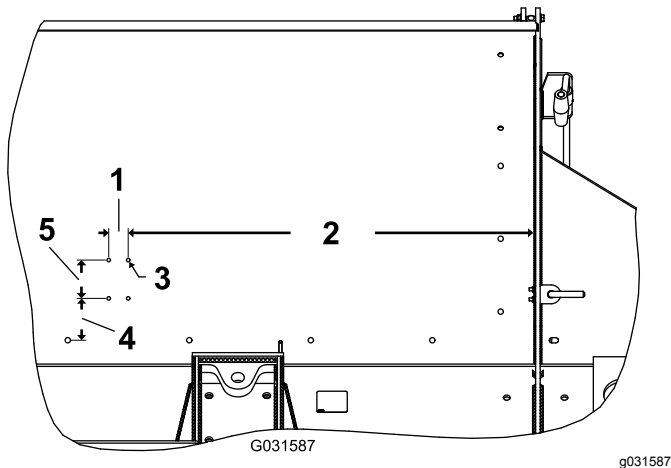

Figure 18
1. Drill 4 mounting holes (7 mm or 9/32 inch) on the side of the hopper. Refer to Figure 18 for the drilling dimensions.